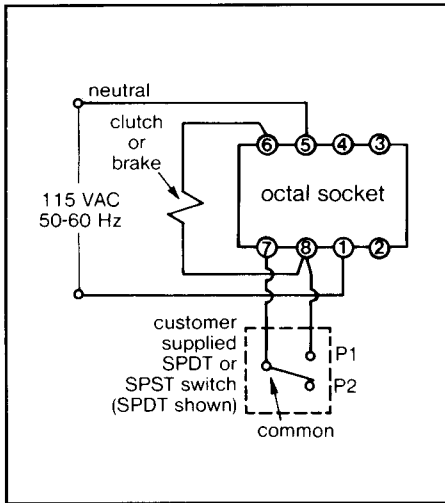

Figure 5: Wiring diagram for PR-33 rectifier with 1 unit.
(See Figure 5)
3. Connect switch to terminals 7 and 8; the switch common should be connected to terminal 7. Use a maintained contact SPDT (shown in Figure 5) or SPST switch. See *Accessory Requirements* Section of this manual for switch specifications.